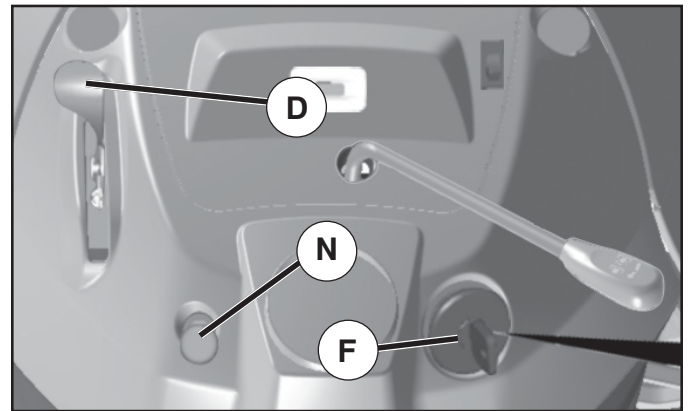

Fig. 16
TO USE THROTTLE CONTROL (D) (See Fig. 16)
TO USE CHOKE CONTROL (N) (See Fig. 16)